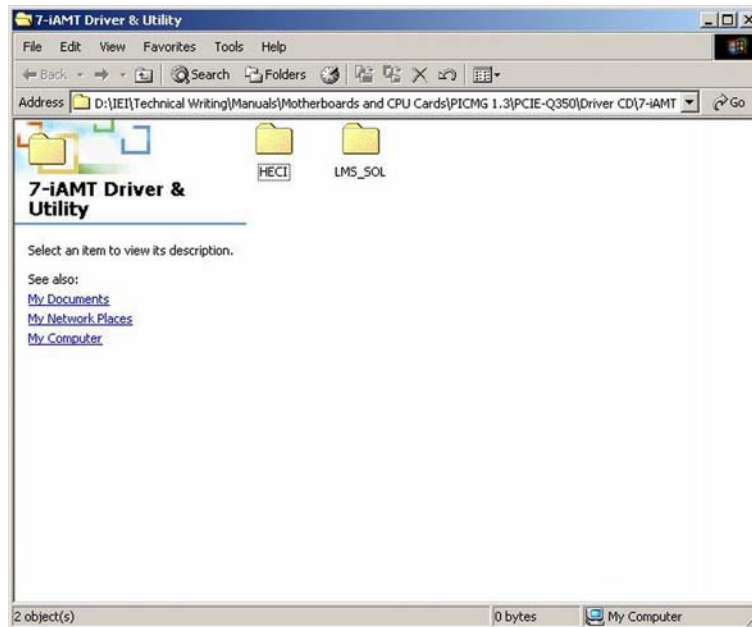

Figure 7-62: IAMT Driver Directory
Step 31: Go back to **iAMT and Utilities** directory (**Figure 7-62**).